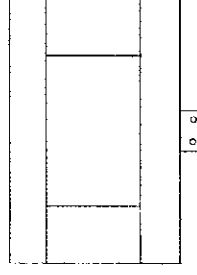

Fig. 3
- Mark the bottom holes position; See Fig. 3, remove the fireplace making sure the bottom fixing bracket is rotated upwards.